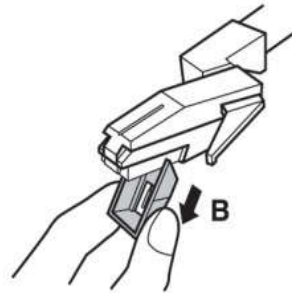

Fig 7
3. Remove the old stylus (fig.7)